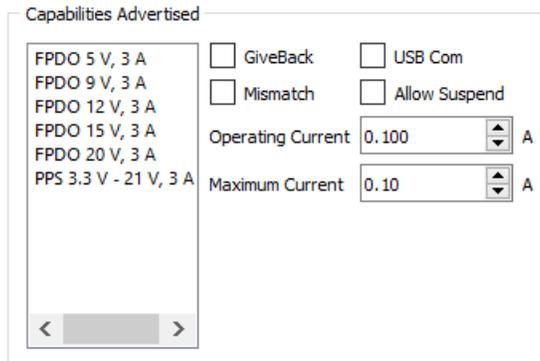

Figure 7 - FUSB3307 capabilities
- Using the FUSB302 GUI, click on the PD Control tab and verify that the Capabilities Advertised look like Figure 7.